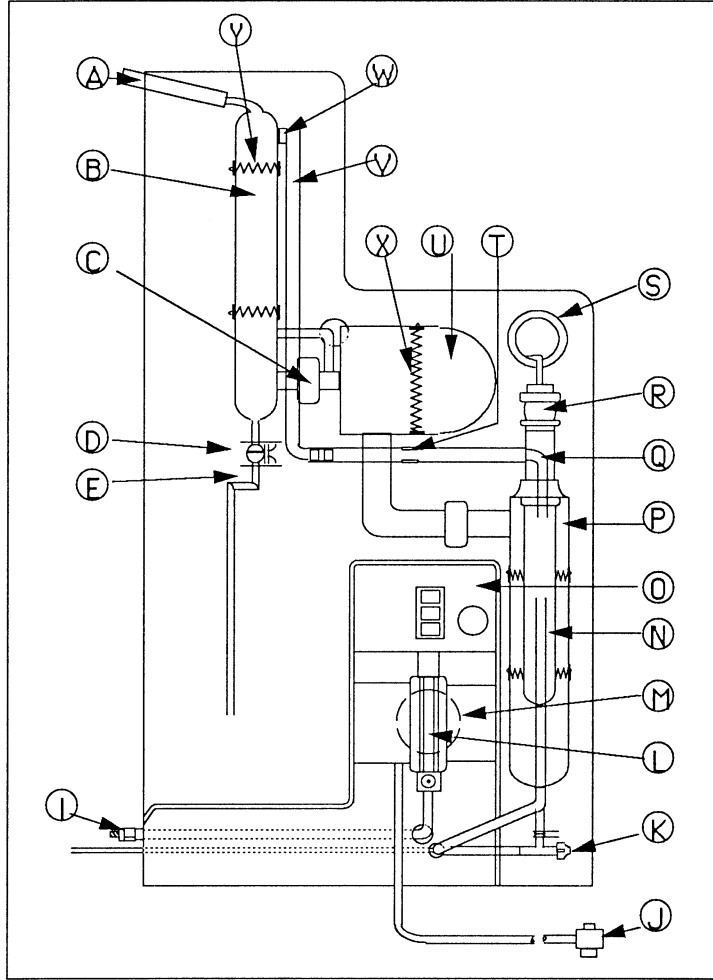

Figure 4-1. Component Locations
Refer to Figure 4-1 for the following steps:
Tools required for assembly: 7/16" open end wrench, diagonal cutting pliers, common screwdriver. Refer to Figure 4-1 for component locations.
3. Check orientation of trap U. If it is not level or tilted back toward the boiler as shown in Figure 4-1, move the condenser B up in its bracket. This will tilt trap as shown.
5. Remove packing material and rotate tube Q into the constant level chamber of boiler P as shown in Figure 4-1.
7. Insert immersion heater into the top opening of boiler P as shown in Figure 4-1.